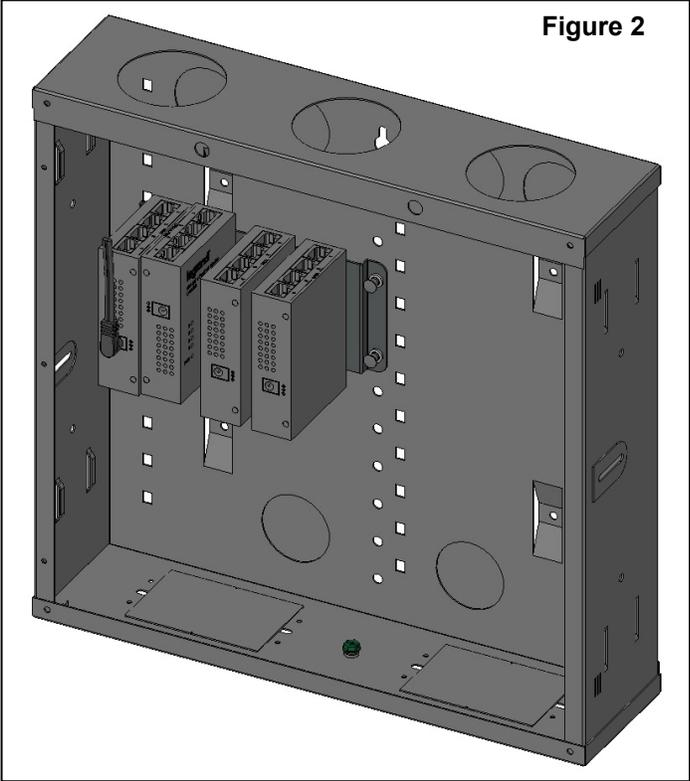

Figure 2
The DA2401 is designed so that multiple units may be easily mounted to a separately available bracket (P/N AC1025) in an On-Q style enclosure (see **Figure 2**) and each unit may also be individually wall mounted, as it has keyhole slots on the rear of the case.
3. Each 4 Port High Power PoE Injector is first attached to the separately available AC1025 bracket using two of the eight screws provided with the bracket (see **Figure 2**) and then the bracket is installed in the structured wiring enclosure by slipping the tabs into the square holes, and using the push pins in round holes to secure the DA2401.